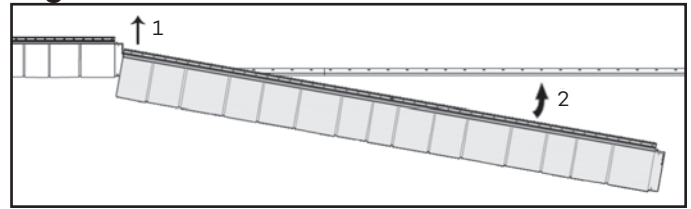

Figure D.1
4-Install the next section by hooking it into the starter strip and overlapping the previous, closest of the desired position (1), then rotate it upwards to fully engage the hook (2) (Figure D). If installed at outdoor temperature above 68°F(20°C), slide until the stopper located on the upper right end. A reference line located on the bottom right end allows to validate positioning. If installed at outdoor temperature between 32°F(0°C) and 68°F(20°C), adjust the left edge to the temperature line (Figure D.1). If installed at outdoor temperature below 32°F(0°C) position the section slightly right (1/16"(0,16cm)) of the 32°F(0°C) and 68°F(20°C) line. Once properly positioned, fasten it as previously indicated. Repeat this step until the end of the row.